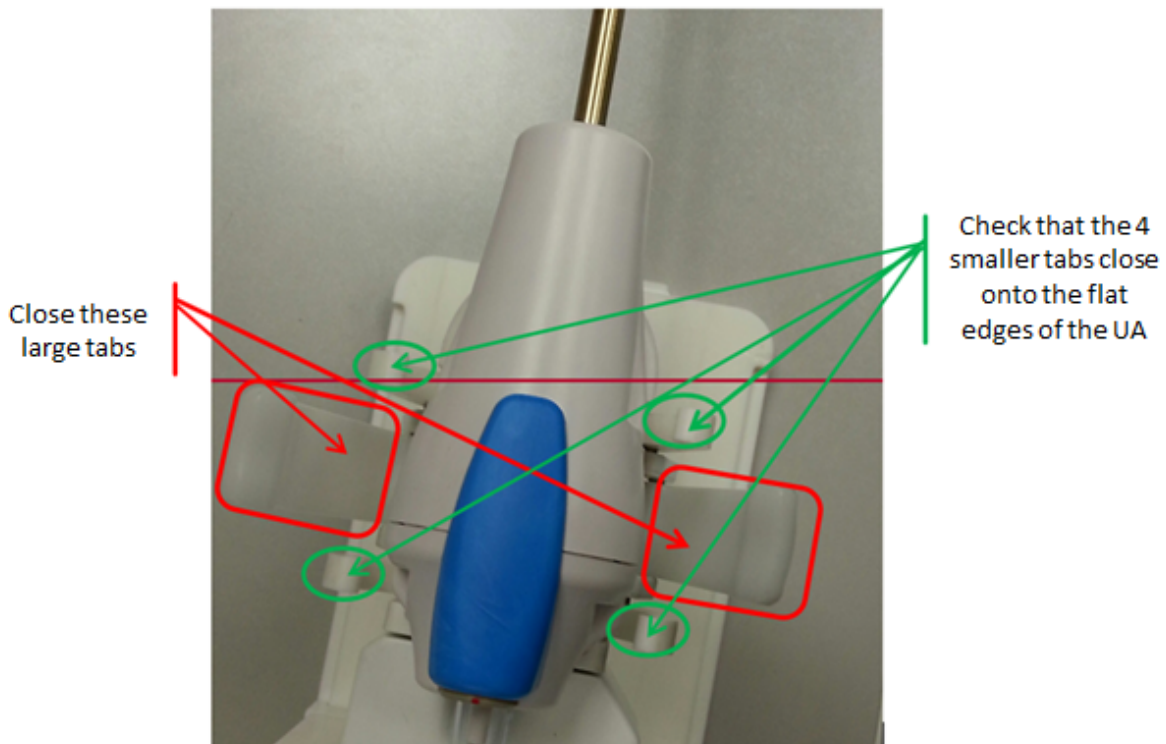

Figure 23: UA resting on PS with UA handle sitting in UA gripper
4. **MRI Technologist:** Capture the UA handle in the UA gripper of the PS (*Figure 23*). Ensure that the UA is not being 'forced' into position. If so, release the UA from the UA gripper and adjust the PS axes to achieve better alignment with the UA. Ensure the up-and-down and tilt-release knobs on the PS are locked before securing the UA in the gripper of the PS.